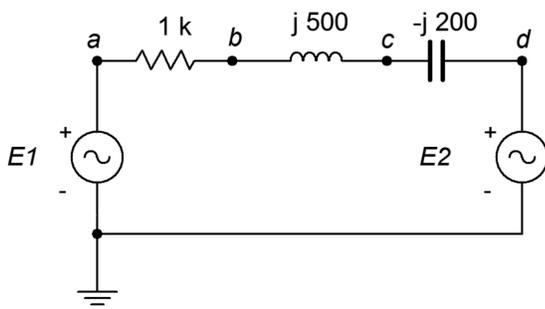

Figure 2.37
57. For the circuit of Figure 2.37, determine the voltages across each component.  $E1=1\angle0^\circ$  and  $E2=8\angle60^\circ$ .